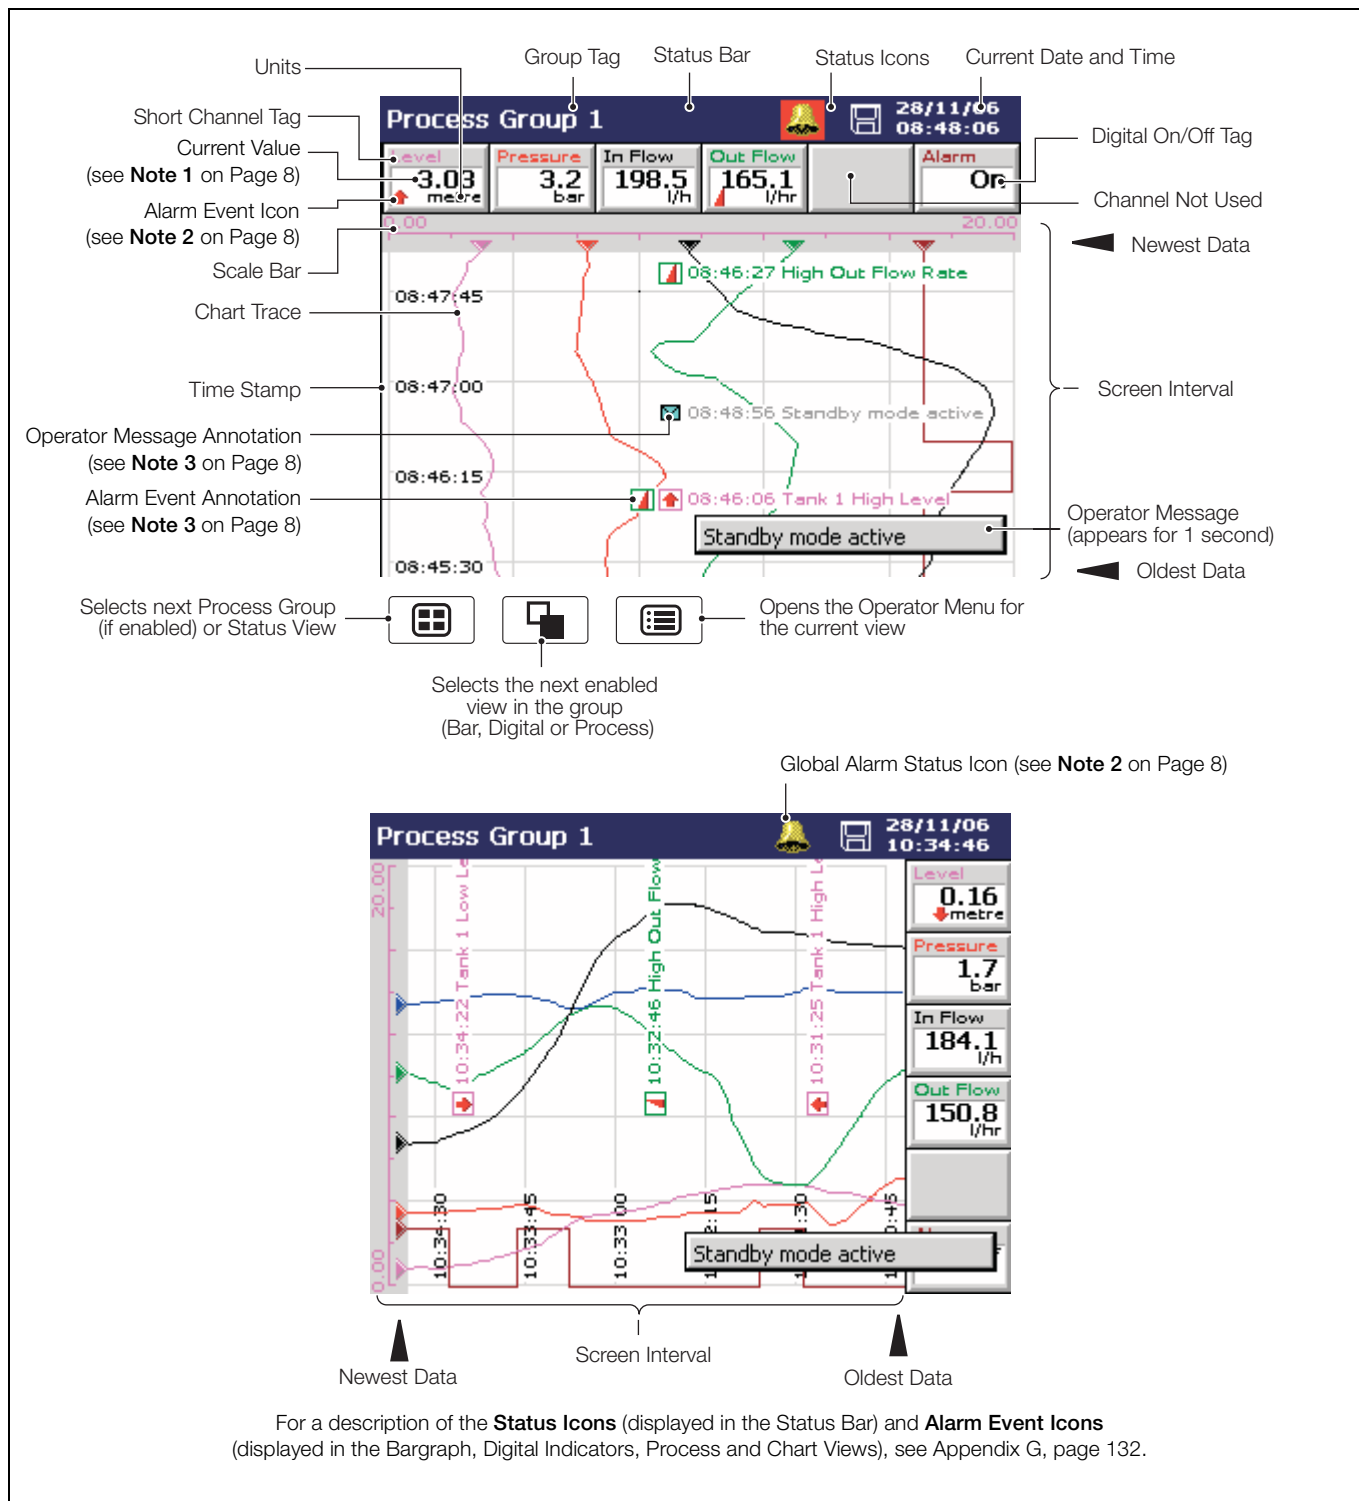

Fig. 2.3 Horizontal and Vertical Chart Views
2.3 Chart Views – Fig. 2.3
If **any** alarm in **any** process group is active, the Global Alarm status icon () is displayed in the status bar – see Fig. 2.3. If **any** active alarm in **any** process group is unacknowledged, the icon is surrounded by a red flashing border (.